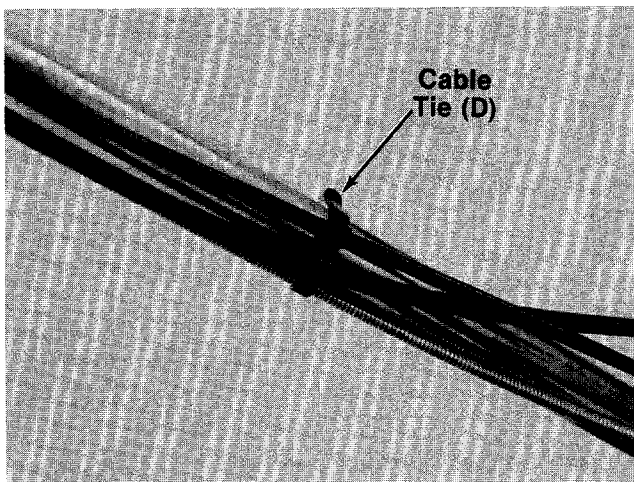

FIGURE 9.
18. Secure the control cables to upper and lower handles with cable ties (D) provided. See figure 9.